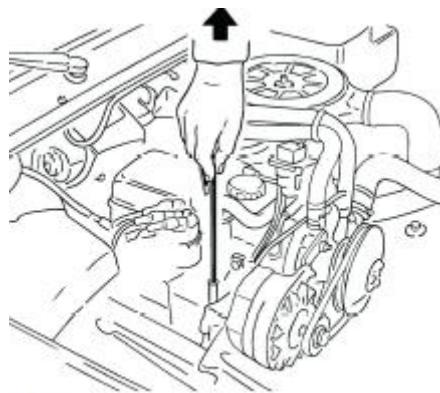

FIG. 1
- It is best to change the hot oil. The total suction capacity of the machine is 2/3 of its volume (approximately 53 litres). If the engine is still hot, replace the engine gauge with a suitable suction tube (largest diametre), and insert it as low as possible. (figure 1).